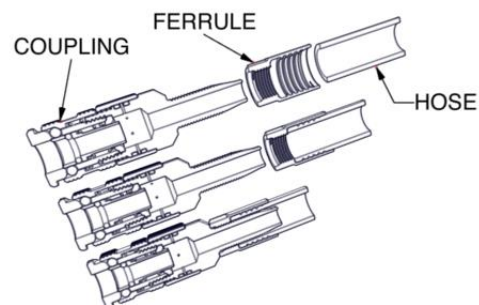

Figure 3-2 Air Hose Quick Connect Coupling Replacement
b. **AIR HOSE QUICK CONNECT COUPLING REPLACEMENT.** Refer to figure 3-2 and replace worn or otherwise damaged air hose quick connect couplings in accordance with the following procedure.